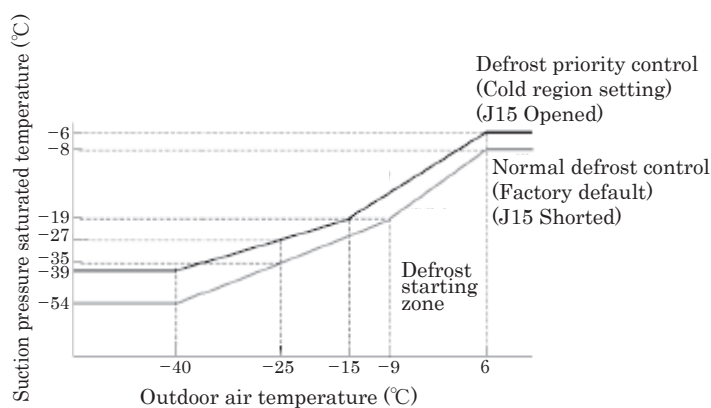

Fig 1-2 Defrost start condition by suction pressure saturated temperature
- e) Or the suction pressure saturated temp calculated from the low pressure detected by LP sensor is lower than the defrost starting temperature, which is decided by the outdoor air temperature, for 180 seconds continuously. (Fig 1-2)
② Starting condition B